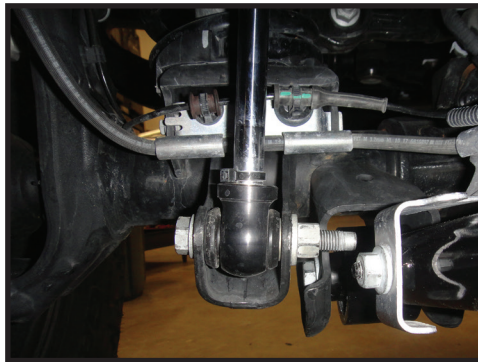

FIG.5
9. With the new coil springs installed, lift the axle enough to install the longer shocks using the factory hardware and an 18mm. [Torque to factory spec] [FIGURE 5]